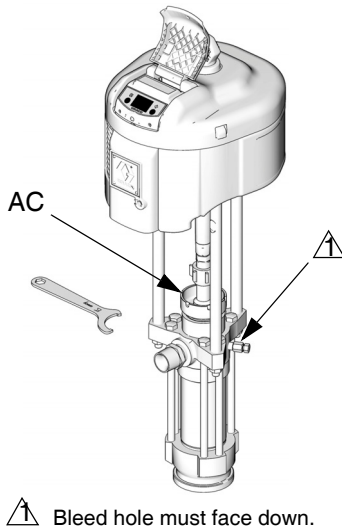

FIG. 14: Bleeder Valve and Wet-Cup
See FIG. 14. Check the wet-cup (AC) daily. Keep the wet-cup 1/3 filled with Graco Throat Seal Liquid (TSL) or compatible solvent.